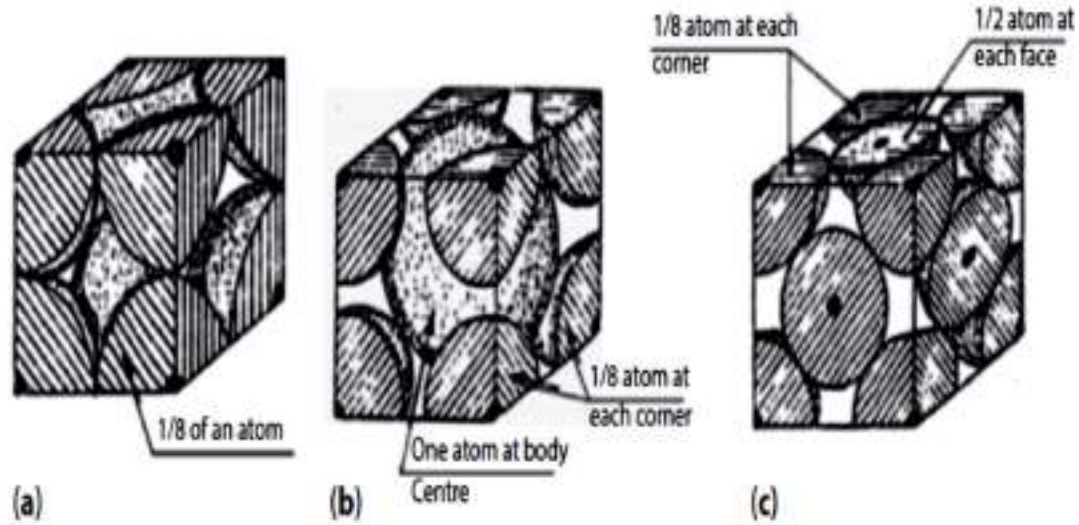

Figure 2.11 Effective number of atoms in (a) SC, (b) BCC, and (c) FCC
- Thus the effective number of atoms are 1, 2 and 4 in SC, BCC and FCC respectively. Figures 2.11 a-b-c explain these details.